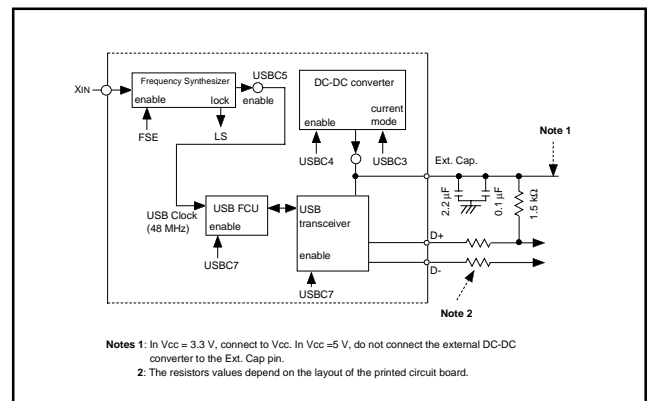

Fig.112 Peripheral circuit
•Connect a capacitor between the Ext. Cap. pin and the Vss pin. The capacitor should have a 2.2 μF capacitor (Tantalum capacitor) and a 0.1 μF capacitor (ceramic capacitor) connected in parallel. Figure 112 for the proper positions of the peripheral components.